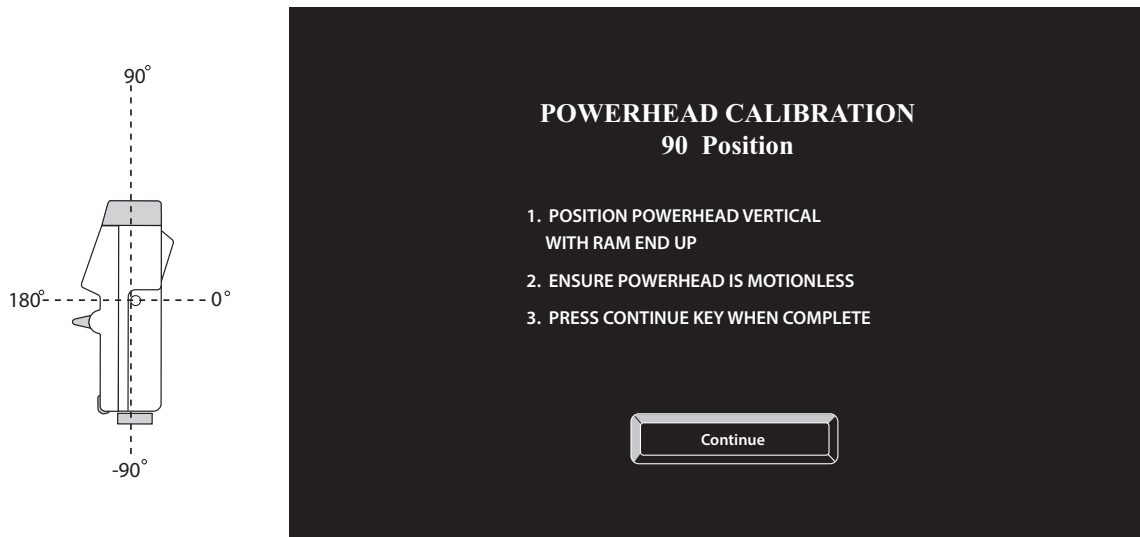

Figure 5-4-2 90° Position Calibration (Powerhead)
2. The 90° Position Powerhead Calibration screen, shown in Figure 5-4-2, will then be displayed. Follow the instructions on the screen in Figure 5-4-2 and then press the [Continue] key.